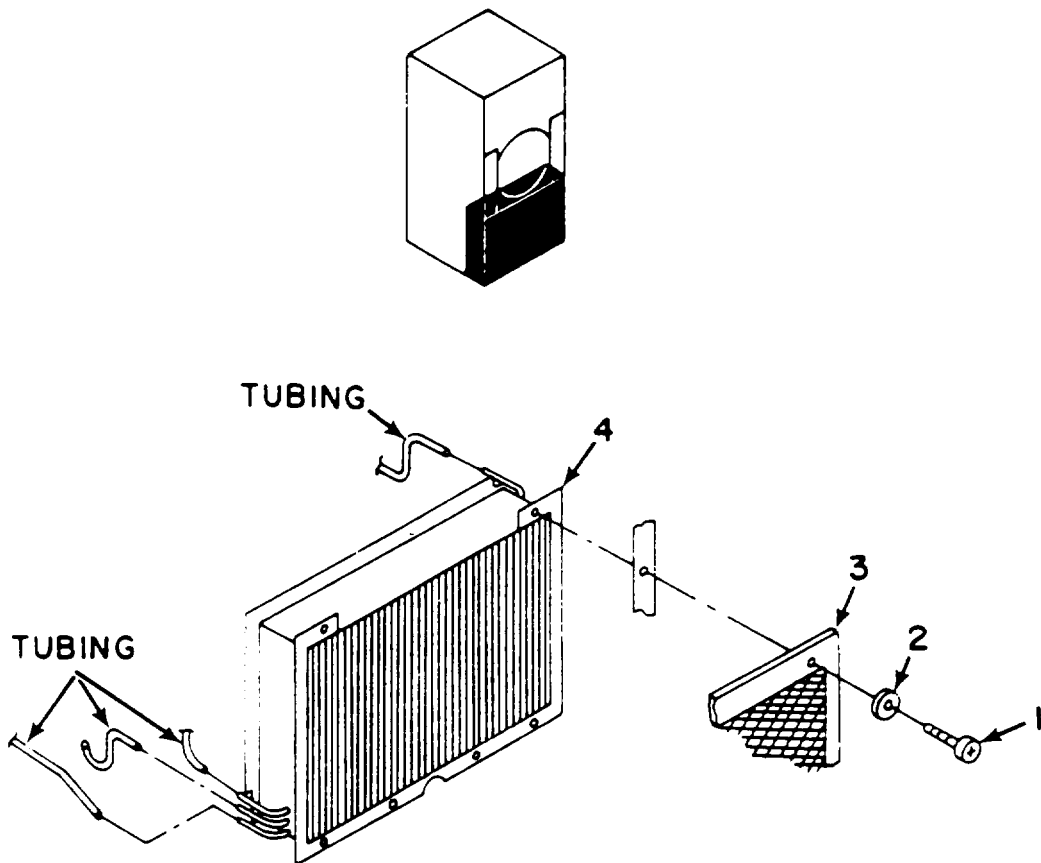

Figure 5-15. Condenser Coil.
3. Remove six screws (1) and flat washers (2) and condenser guard (3).
- b. REMOVAL. See Figure 5-15